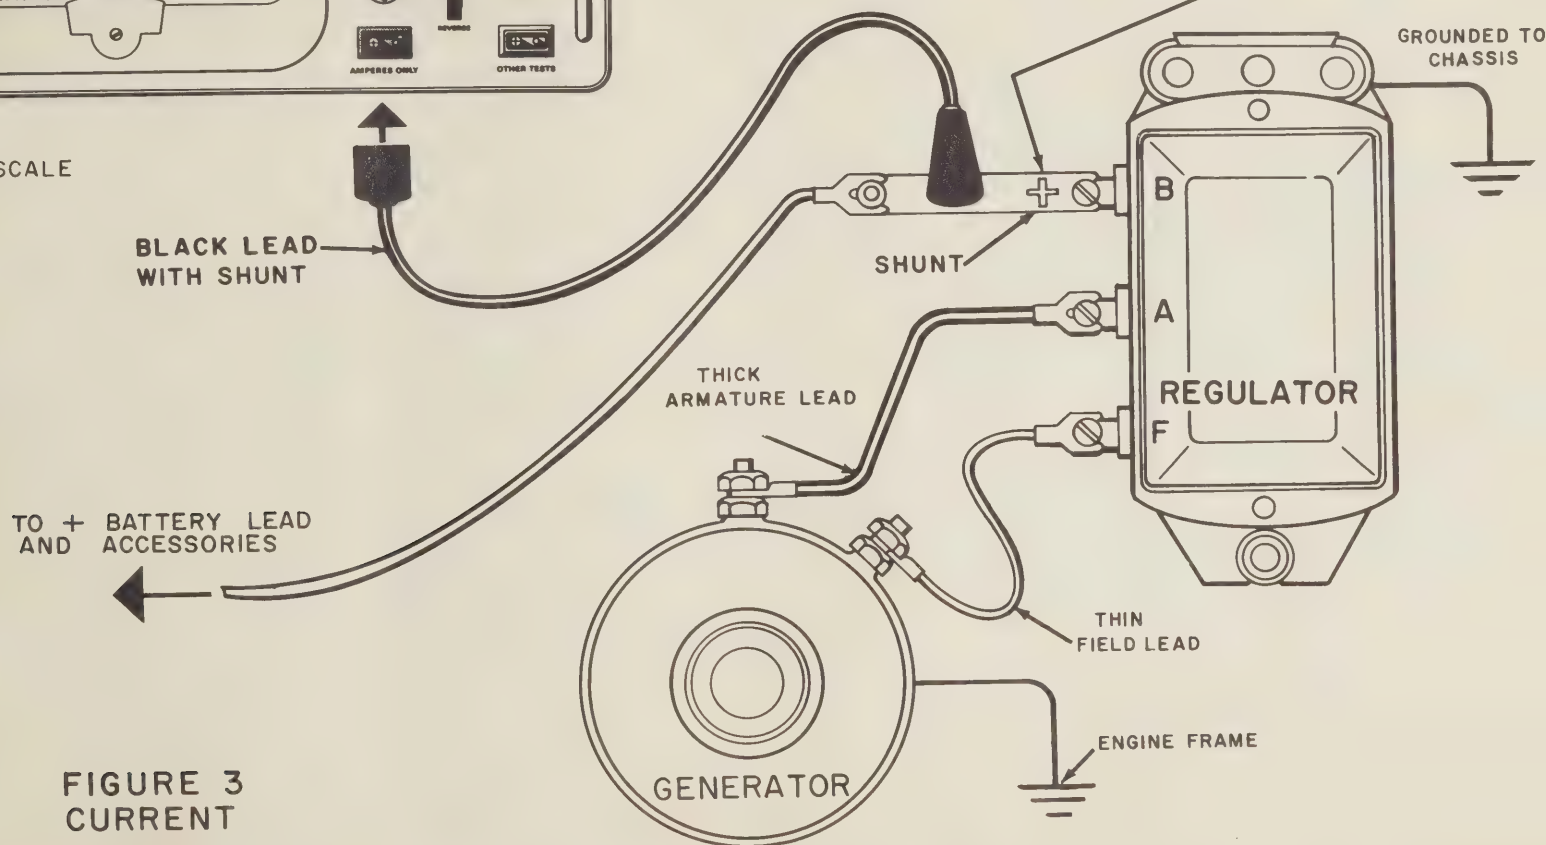

FIGURE 3
SEE FIGURE 3
5. When the circuit is turned on, the meter will deflect and indicate the current flowing through the circuit in amperes. Read the green AMPERES scale as shown in Figure 3.